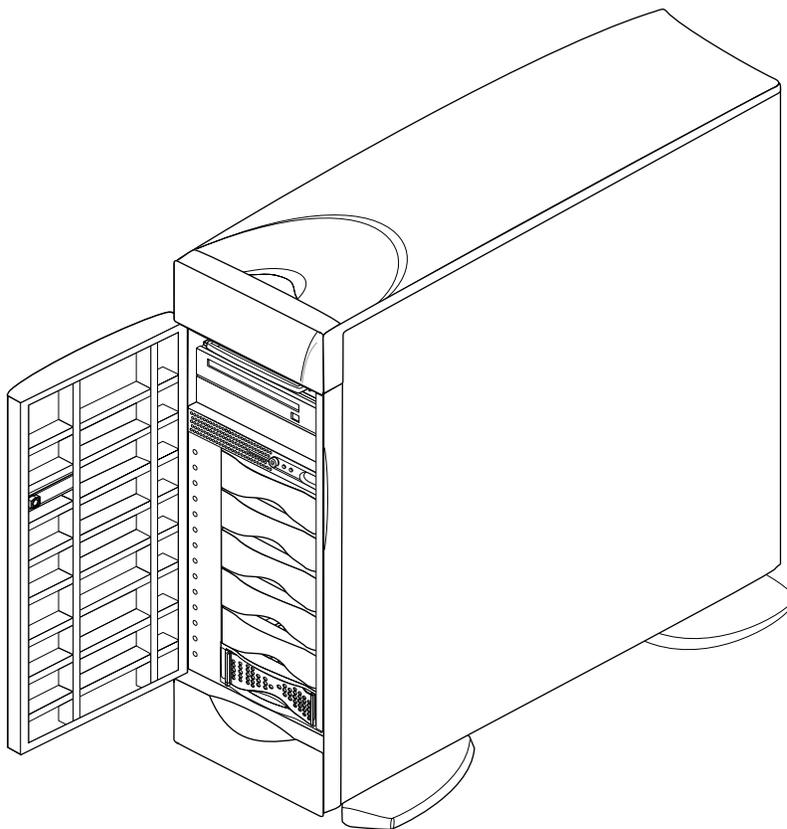

Figure 7-17 Opening the Front Door of Origin200
1. Open the front door of the chassis, as shown in Figure 7-17.